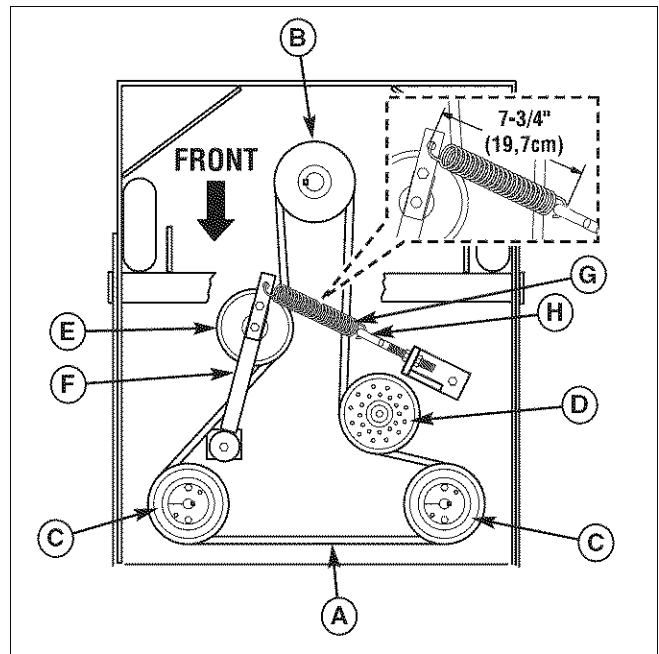

Figure 38. Hydraulic Pump Drive Belt Replacement
3. Loosen the nut towards the front of the machine on the spring anchor hook (H, Figure 38) to release the majority of the belt tension. Use caution and remove the nut to completely release the tension.
5. Reinstall the anchor hook (H) into the anchor tab and loosely fasten the nut. Adjust the spring until a measurement of 7-3/4" (19,7cm) is achieved from the outside of the spring hooks. Tighten nut.